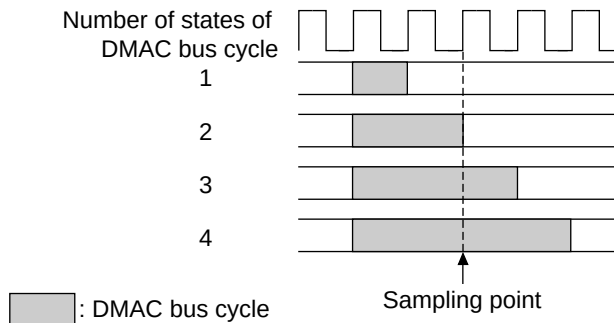

Figure 9.25  $\overline{\text{DREQ}}$  Sampling Points
As shown in Figure 9.25, sampling of  $\overline{\text{DREQ}}$  is carried out immediately before the rising edge of the third-state clock (CK) after completion of the bus cycle preceding the DMA bus cycle where DACK is output.